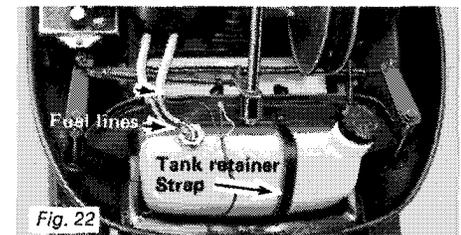

Fig. 22
1. Disconnect fuel lines by pulling plastic lines away from tank. (See Fig. 22).